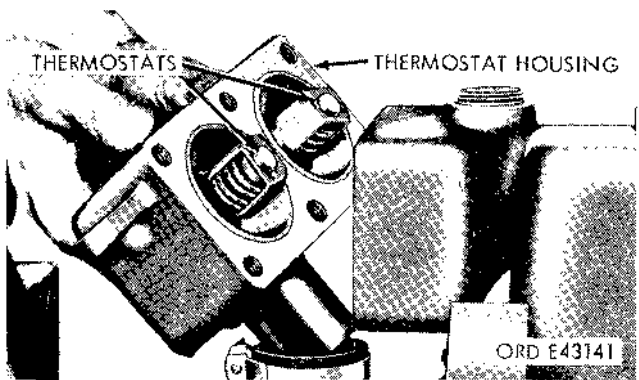

Figure 2-135. Removing thermostats—gasoline models.
- (5) Remove the six capscrews (fig. 2-135) and lockwashers at the front of the thermostat housing, and remove the housing from the bypass hose and from the radiator inlet hose. Remove and discard the thermostat housing-to-water outlet header gasket.
- (6) Pull the thermostats (fig. 2-135) from the housing.
- (1) Clean gasket surfaces on the thermostat housing (fig. 2-135) and water outlet header, and install a new gasket on the front of the header using a liquid type gasket cement.
- (2) Make sure that the rubber seals are in place on the two thermostats, and place the thermostats in the housing.
- (3) Slide the outlet on the front of the ther-
mostat housing (fig. 2-135) into the radiator inlet hose. Slide the outlet on the bottom of the thermostat housing into the bypass hose. Position the thermostat housing into the front of the water outlet header, and install the six capscrews and lockwashers. Tighten the capscrews.